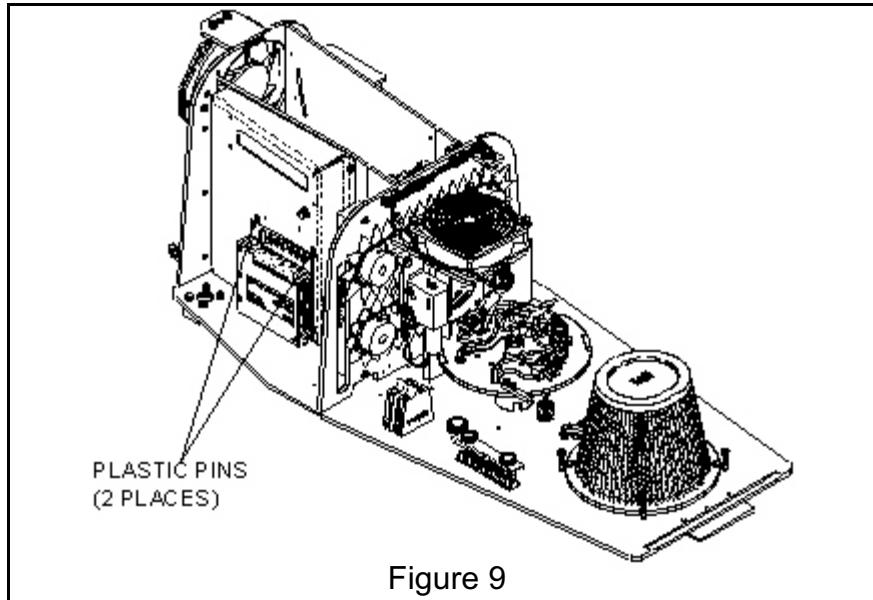

Figure 9
- b. Remove the two plastic pins that prevent upward movement of the Limiter (Figure 9).